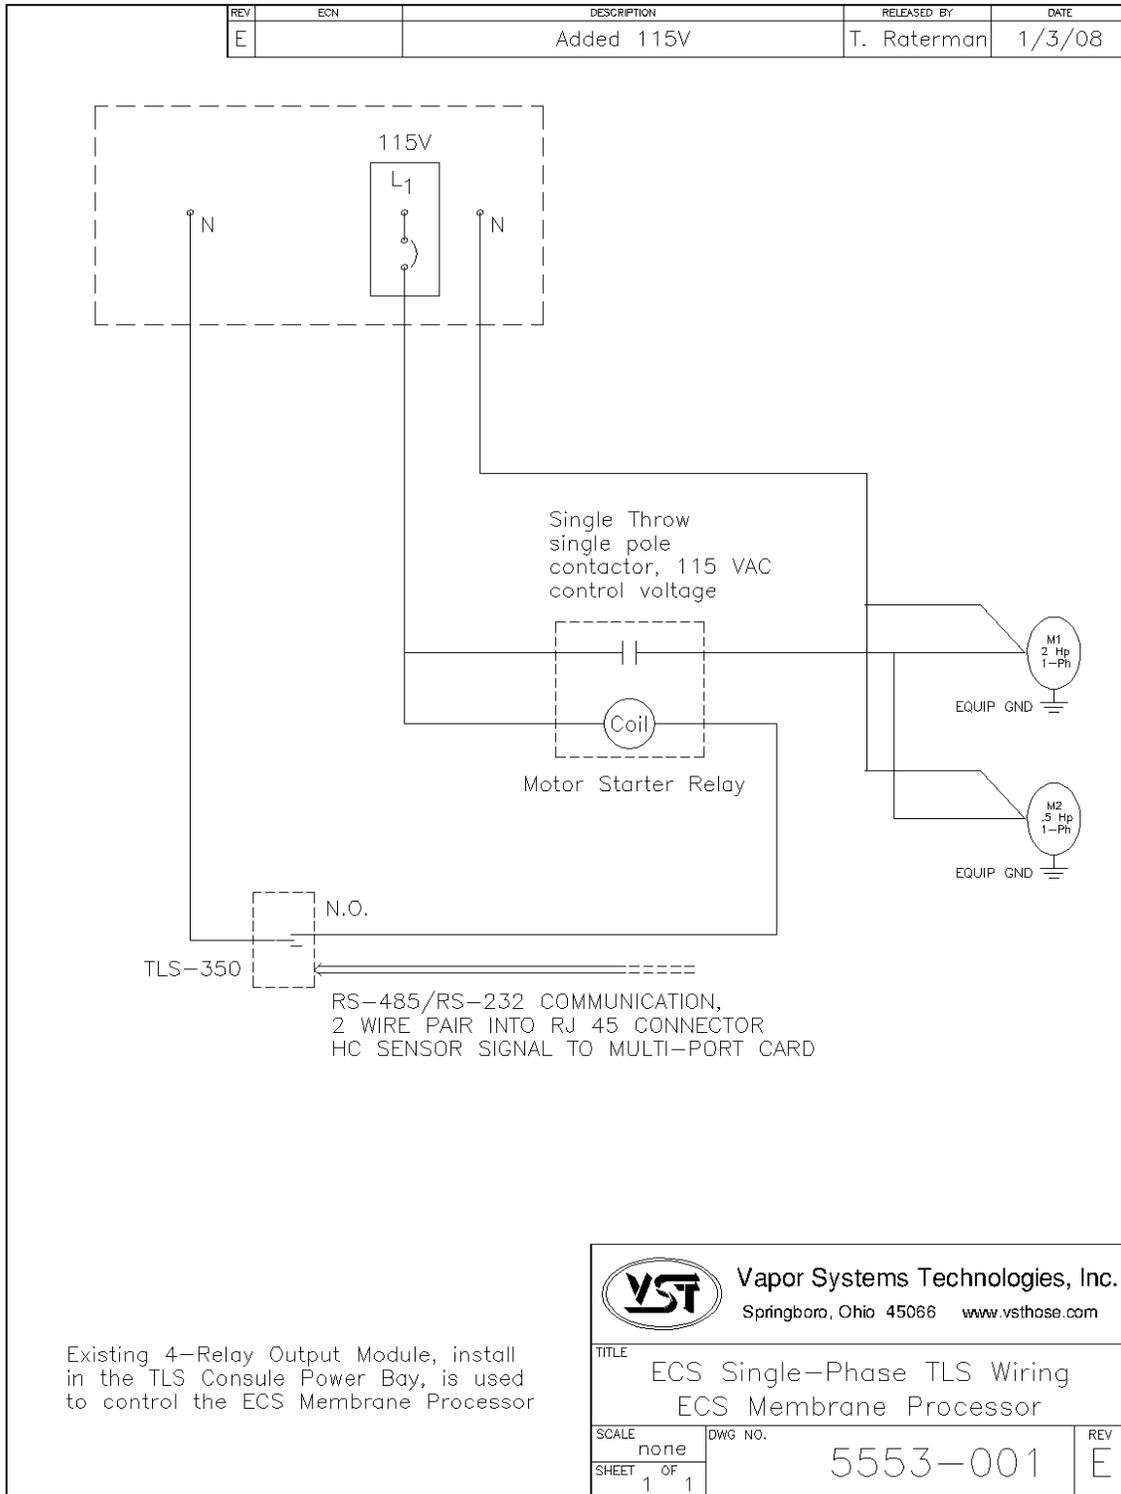

Figure 27: Processor Single-Phase TLS Wiring
- ▶ **See Figure 27: Section 14 / Page 70**